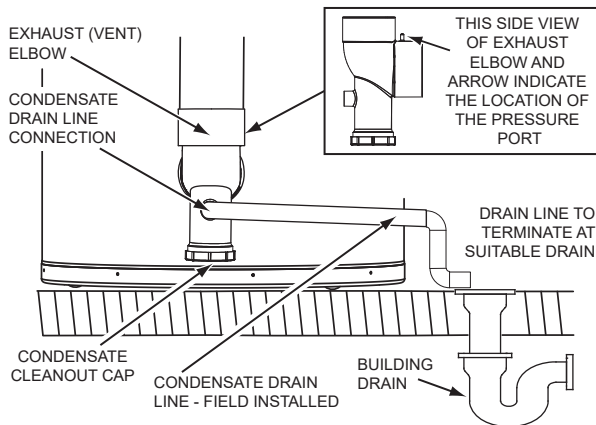

Figure 8. Exhaust/Condensate Elbow
Condensate drains from the water heater at the exhaust elbow located at the bottom. The field-installed condensate drain line must not be elevated above the condensate drain connection on the built-in condensate trap. See **Figure 8** (page 20). If the condensate does not drain properly it will build up in the exhaust (vent) elbow. This will restrict the flow of flue gases and cause the Blocked Exhaust Pressure switch to open its contacts. The control system monitors all pressure switches. If the Blocked Exhaust switch contacts are open, the control system will lock out and disable heating operation. The "Blocked Exhaust fault" message will be displayed on the control system's LCD. See **Fault And Alert Conditions** (page 73).
The exhaust elbow has a built-in condensate trap. Do not install an additional trap in the condensate drain piping. See **Figure 8** (page 20).
**Do not** remove the factory-installed exhaust/condensate elbow for any reason. See **Figure 8** (page 20). The water heater's vent pipe is under a slight positive pressure while unit is in operation. The water trap inside of the exhaust/condensate elbow prevents flue gases from escaping into the installed space. The exhaust elbow has a built in condensate trap. Do not install an additional trap in the condensate drain piping. See **Figure 8** (page 20) and **Condensate Drain Installation** (page 43).